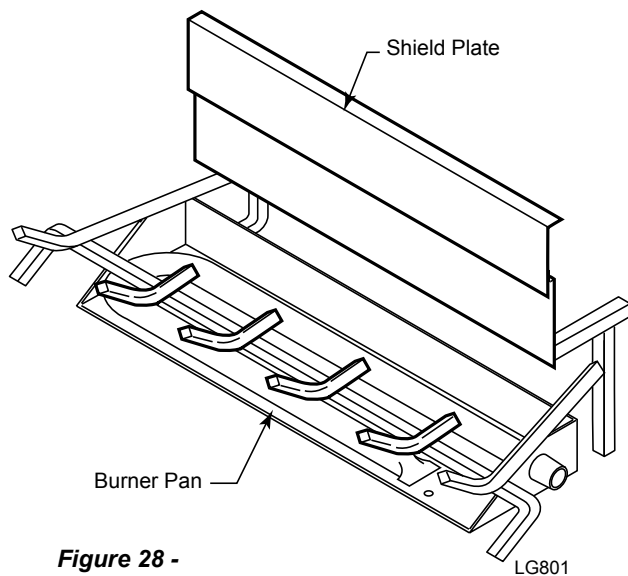

Figure 28 - Slide Shield Plate Behind Burner Pan
1. Slide shield plate down back of burner pan. *Figure 28*